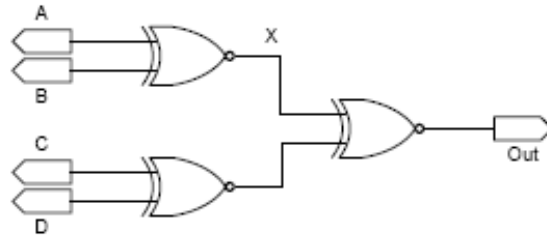

Figure 4: Cascade of XNORs
3) Next you use the gates you just designed to build the circuit shown in Figure 4. You implement the same circuit one time using the CMOS XNOR gate and the second time using your PTL XNOR gate. You can assume that somehow magically you have the inverted output values of your single gates available as well (i.e. if Output = low = V_{OL} then Output' = high = V_{OH} and vice versa). Further assume $V_{DD} = 1.2 \text{ V}$, $V_{Tn} = V_{Tp} = 0.3 \text{ V}$ and neglect body effect.